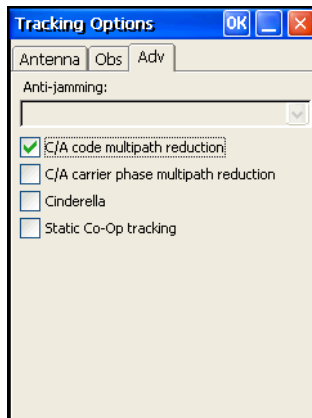

Figure 3-21. Configure Advanced Parameters
- Click the **Advanced** tab. Set the following parameters, and click **OK** (Figure 3-21 on page 3-24).